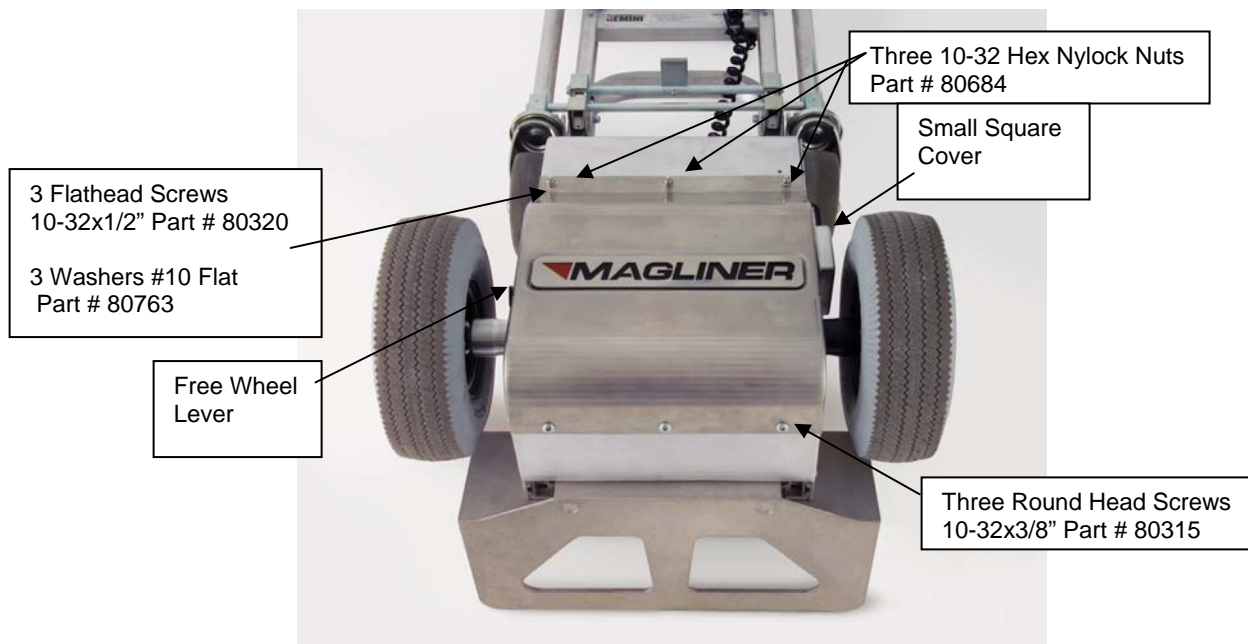

Fig. 7e
- 12) Remove the main cover to expose the transaxle (Fig. 7e). This is done by removing three nuts and three screws as shown. The three nuts also will need the aid of a short #2 Phillips screwdriver from inside of the battery compartment.